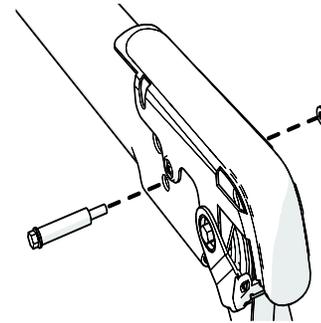

Figure 3
3. Attach the bolt using the nut **1** (see Figure 3). Partially tighten.